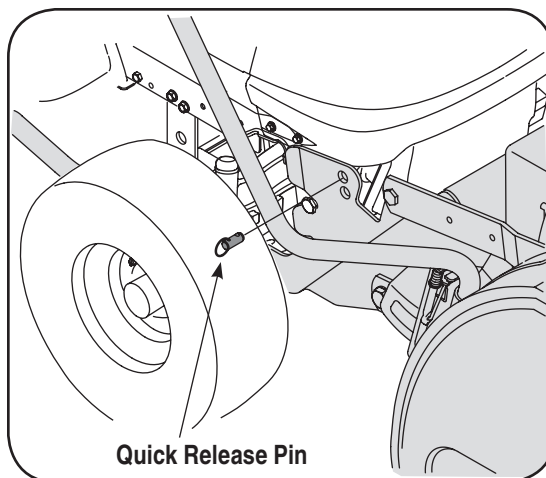

Figure 6-8
5. Maneuver the auger housing until the mounting holes line up. Insert the two quick release pins from your hardware pack into the top hole on each side as seen in Fig. 6-8.